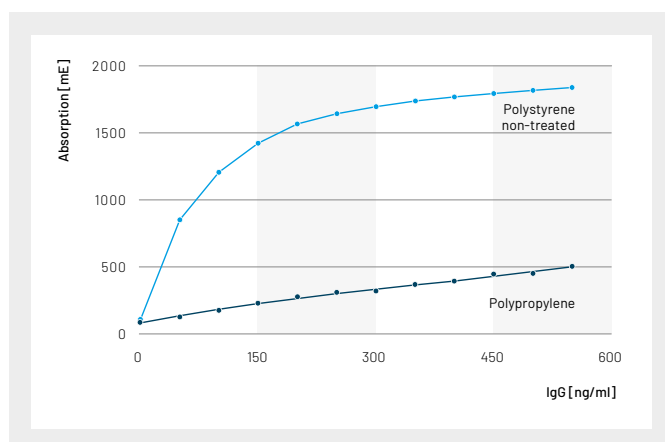

Figure 6: Binding of human IgG to polystyrene and polypropylene.
Polypropylene (PP) has low biomolecular binding characteristics (Fig. 6), high temperature tolerance and high resistance against many solvents such as DMSO (Table 1). Polypropylene can also easily be heat-sealed, a major request in high-throughput screening where heat sealing is the most common way to close a microplate.